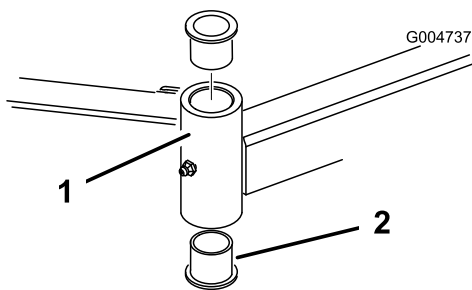

Figure 125
4. Insert a pin punch into the top or bottom of the mounting tube and drive the bushing out of the tube (Figure 125).